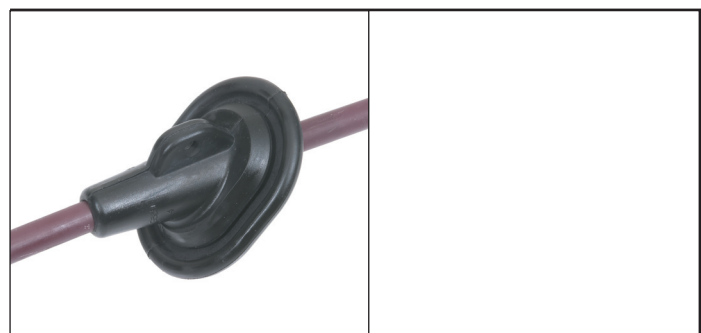

Figure 6 - AT Shifter Cable Grommet
5. Loosen the grommet that is attached to the shifter cable(1) from the cab floor. Refer to Figure 6.